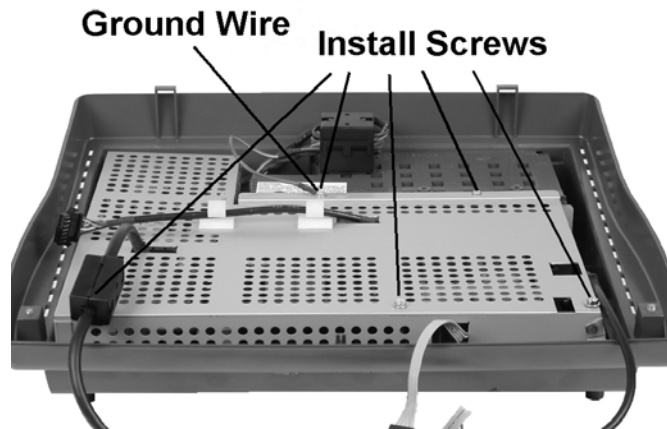

Figure 3-22: Securing the RF Shield and Fastening the AC Ground Wire
4. Fasten the RF shield screws. Figure 3-22. Be sure to install the ground wire fastened with left rear shield screw.